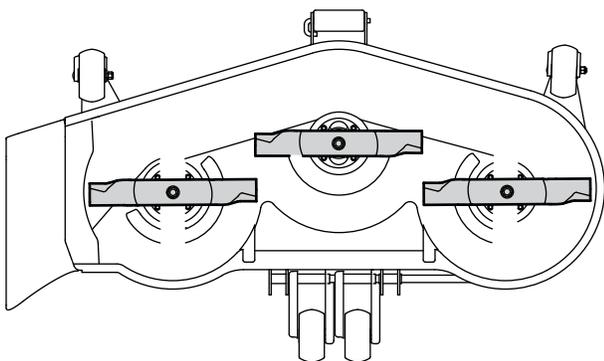

Figure 19
- Carefully rotate the outer cutting blades so that they are positioned perpendicular to the tractor frame. See Figure 19.
- Use a 9/16" wrench on the flats of the lift rod to turn the lift rod in the direction shown in Figure 19 to lengthen the rod. Turn the rod only in small increments, while continuing to measure the outer blade tip heights.